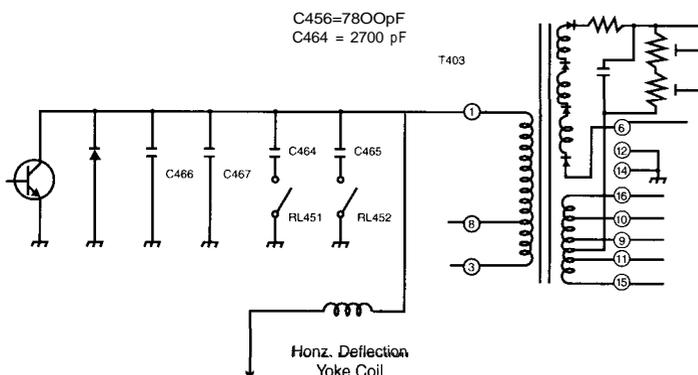

Fig. 5: Switching capacitors in parallel increase the Ct total value to reduce the flyback pulse amplitude at low frequency modes.
**Capacitor Value Switching Example** – Capacitor switching in the horizontal output stage is common among video display monitors designed to operate at several specific horizontal scan frequencies or modes. Figure 5 shows an example of a multi-mode monitor with capacitor switching. Capacitors are switched into the horizontal output stage by relay contacts of relay RL451 and RL452. These relay contacts are shown as switches in Fig. 5. The addition of capacitance values of parallel capacitors C466, C467, C464, and C465 determine the Ct value of the horizontal output stage.